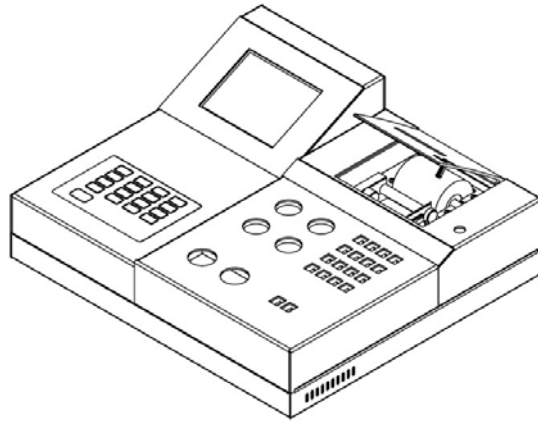

Figure 2
- a) Press the printer cover to open it (see figure 2).